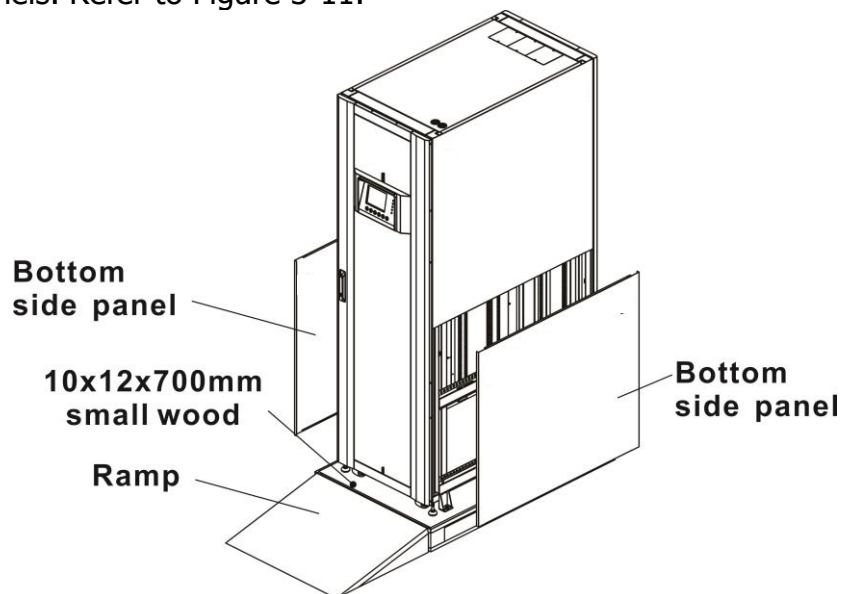

Figure 3-11
3. Put a ramp in the front of the cabinet and insert small wood into groove. Then, remove two side panels. Refer to Figure 3-11.